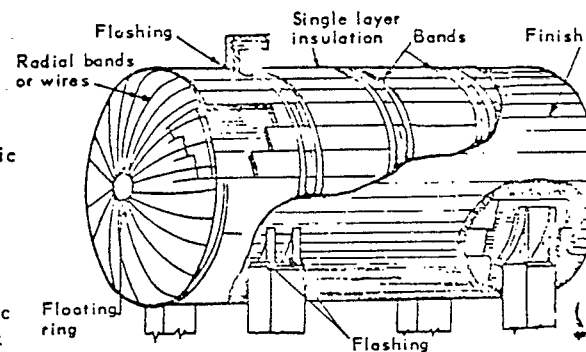

FIGURE 1
3.2 Single-layer Construction. Single-layer block, curved, or segmental block insulation shall be applied with joints tightly butted and lateral joints staggered. Bands (see Table 1) shall be placed over blocks approximately 1 inch from each end of each block, thus providing four bands for each 36-inch length of insulation. All chipped edges, cracks or imperfections shall be filled and smoothed with Insulation Cement, Code 502. See Figure 1.